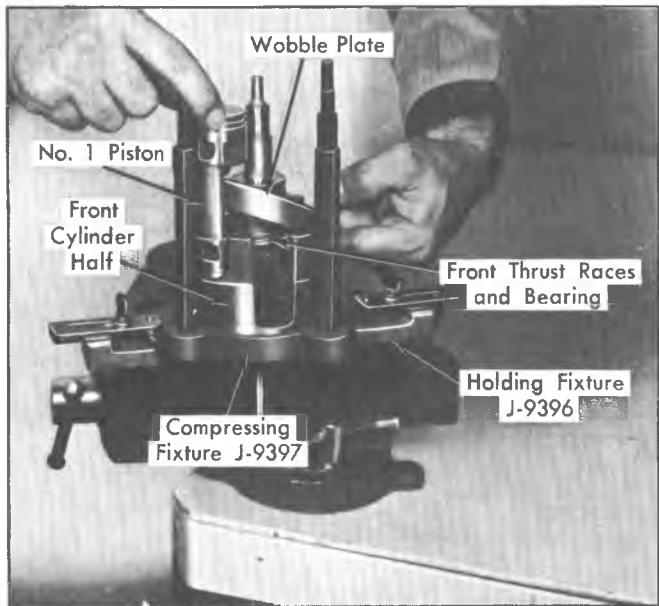

Fig. 21--Installing Piston, Front Ball and Seat and Rear Ball
- Rotate the shaft and wobble plate until the high point of the wobble plate is directly over the cylinder bore previously designated as No. 1. Lift up slightly on the shaft and wobble plate assembly, insert the front (notched) end of the No. 1 piston into the cylinder bore, and at the same time, place the front ball and seat and the rear ball only over the wobble plate (fig. 21). Hold front thrust bearing pack tight against wobble plate hub while lifting shaft.